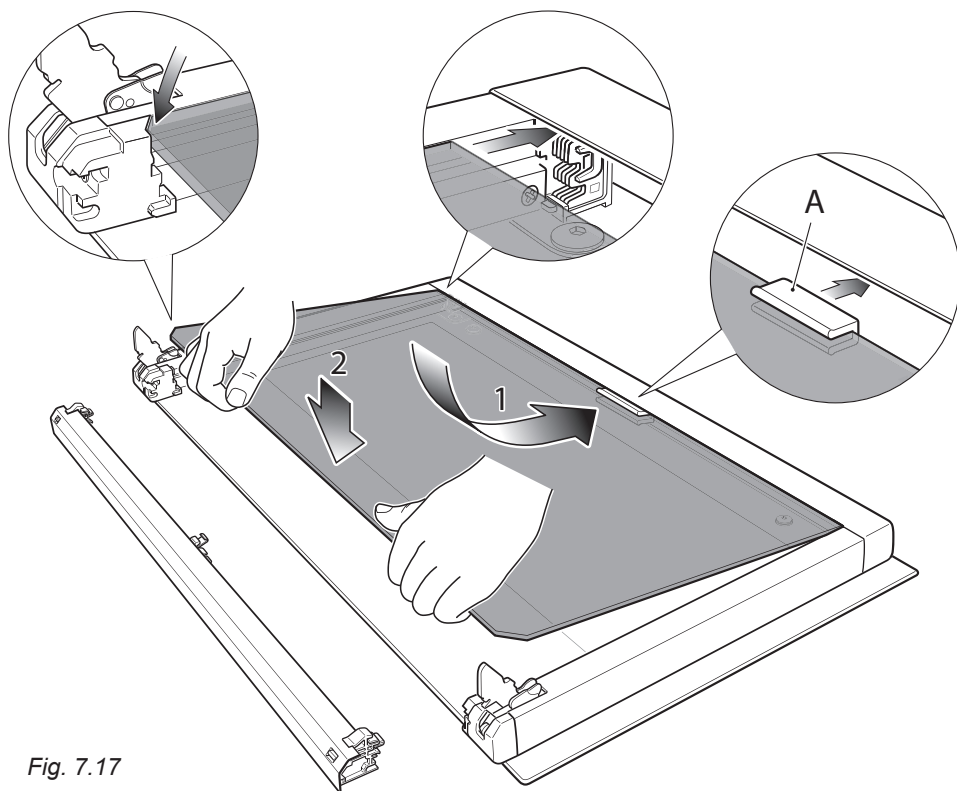

Fig. 7.17
- Check that the gasket "A" is in place (Fig. 7.17). If not, correctly place the gasket in the top edge of the inner glass (in the centre).
1. Insert the inner glass pane in the uppermost pair of grooves and push it slightly (arrow 1 in figure 7.17).
2. Gently lower into place (arrow 2 in figure 7.17).